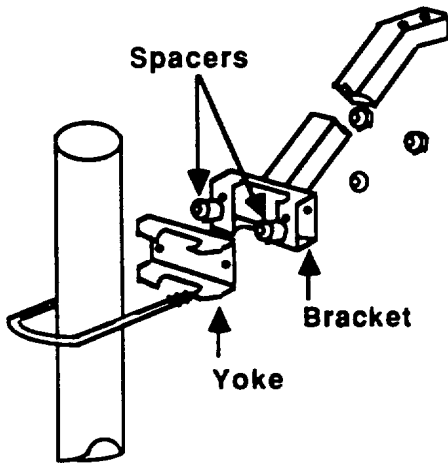

Figure 4-2.
- 5102-2 45° Mounting Bracket Used to mount the hardware, associated with the top wire, to the fence. Refer to Figure 4-2.
The fence fabric will be either on the opposite side of the pole from the E-Field mounting bracket or the same side as the mounting bracket. When mounting bracket is on the same side as the fence fabric, spacers are required as shown in Figures 4-2 and 4-3. The yoke and mounting bracket are installed with the fence fabric between them. The yoke and spacers are not used on installations where the fabric is on the opposite side of the pole.